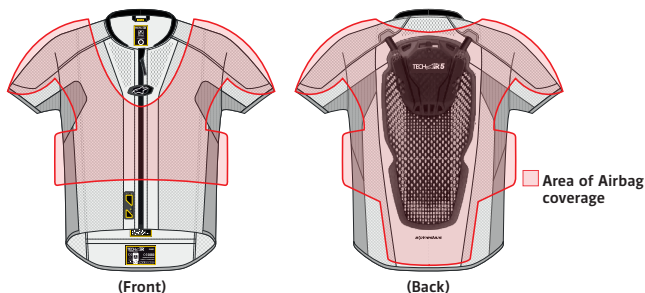

Figure 2
The System provides impact protection for those areas where airbag coverage is shown in Figure 2.
**WARNING! The System provides only limited impact protection against forces in the areas of airbag coverage as depicted in Figure 2. No guarantee is given that the System will prevent injuries (including severe or fatal injuries) inside and/or outside the areas of airbag coverage or the Envelope of Protection.**